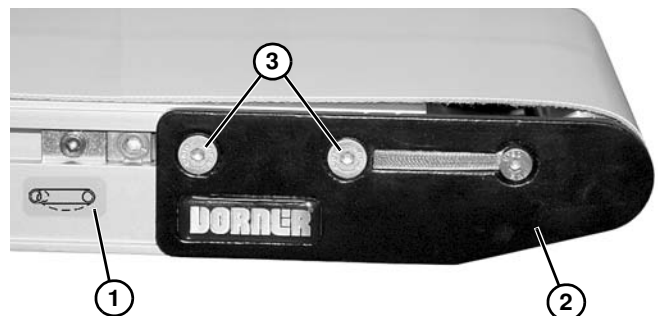

Figure 46
5. On tension end of the conveyor, identified with a  label (**Figure 46, item 1**), push in head plate assembly (**Figure 46, item 2**): On both sides of conveyor, loosen fastening screws (**Figure 46, item 3**) and push head plate assembly inward.